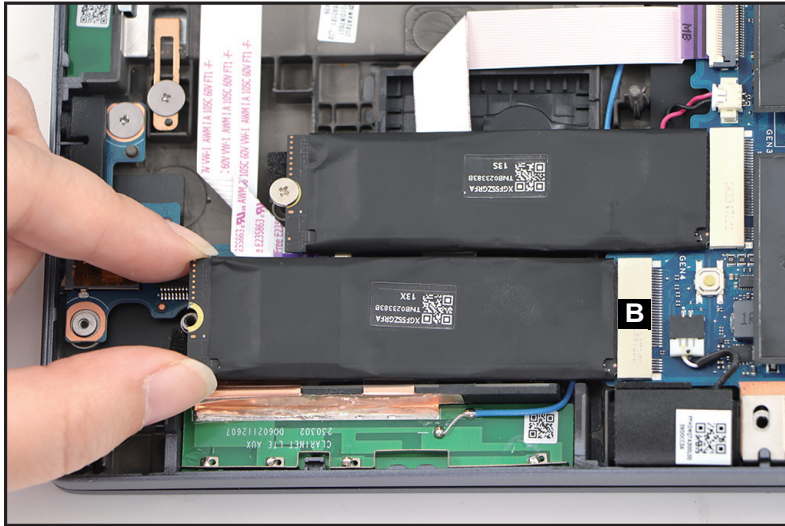

Figure 1-33. SSD Module Removal
3. Disconnect the SSD module from the mainboard connector (B) (Figure 1-33). Then remove the SSD module.